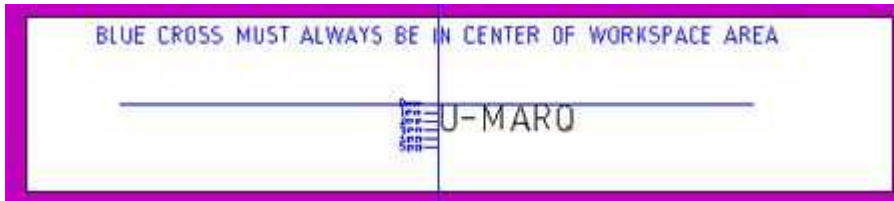

Figure 1
- 2 Choose "Rotary Annuals" You will now see the workspace with text and a blue cross, see Figure 1.